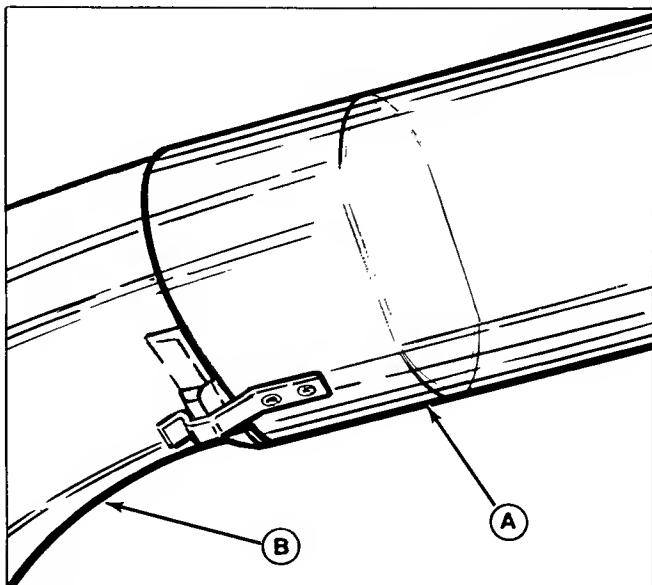

Figure 11.
12. Insert tube (A, figure 11) onto adapter (B) so it latches into place.